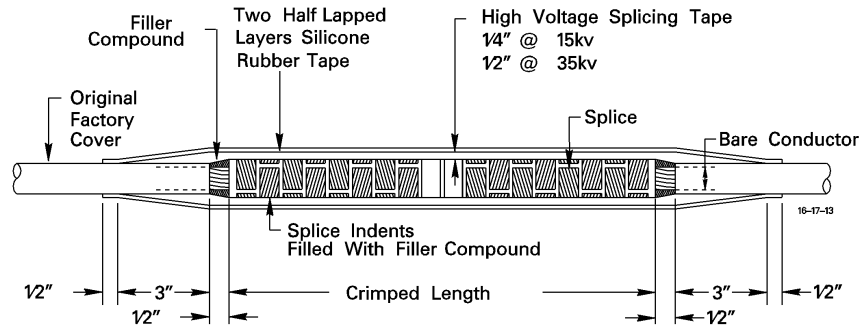

Figure 13
1. After filing off any sharp splice flashings, fill indents with filler compound, Std. Item T5E on the material list. Reference Figure 13 below.